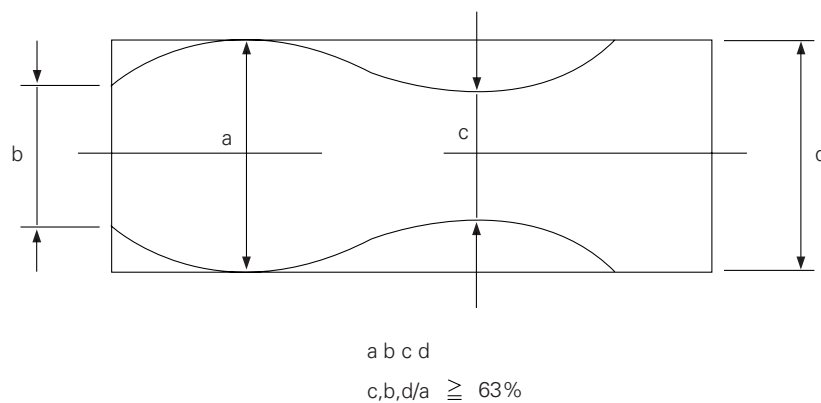

Fig. 3-11 Envelope Waveform Adjustment
- 3) Make sure the video envelope waveform (at its minimum) meets the specification shown in Fig. 3-11.